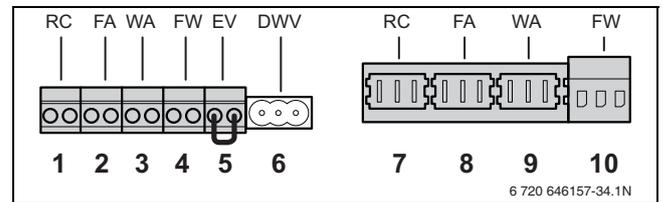

Fig. 38 External connection board connections
- ▶ Connect a Room- or Cascade controller to the orange RC terminal (→ fig. 38) (→ § 7.1.4, page 24).
- ▶ Connect the outdoor temperature sensor to the blue FA terminal (→ fig. 38).
- ▶ Connect the potential-free heat demand contact (On/Off thermostat) or relay panel end switch to the green WA terminal (→ fig. 38).
- ▶ Remove the cable from the EV terminal (→ fig. 38).
- ▶ Connect the external switch contact to the red EV terminal (→ fig. 38).